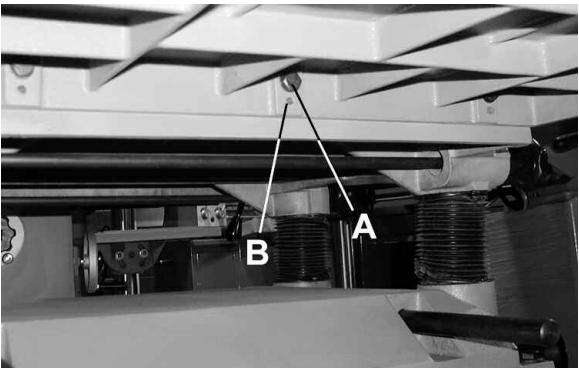

FIGURE 12
Solid table extensions are supplied and can be assembled to the front and back of your planer table. To install the front extension table, hold the extension table against the front of the table and using hex. bolts and washers (A) Fig.12 supplied, fix the extension table to the table.
To adjust the extension table parallel with the table surface, place a straight edge on the top of the table and extension table. Adjust the position of the extension table by using the set screws (B) Fig.12 found underneath until the table extension and the main table are perfectly parallel.